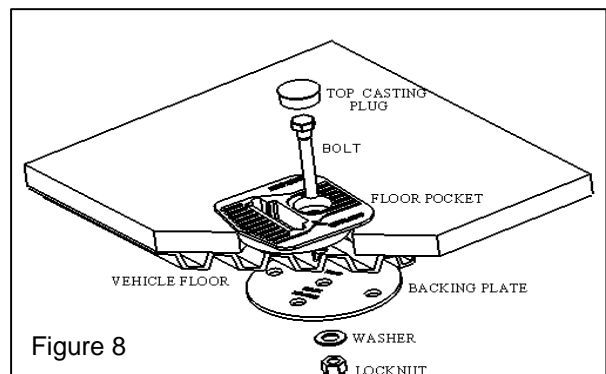

Figure 8
8. Securely fasten bolt and lock nut as shown in Figure 8, ensuring at least 2 – 3 threads are sticking out. **Recommended torque = 35 FT/LB (47 N.m.).**
Securely fasten bolt and lock nut as shown in Figure 8, ensuring at least 2 – 3 threads are sticking out. **Recommended torque = 35 FT/LB (47 N.m.).**